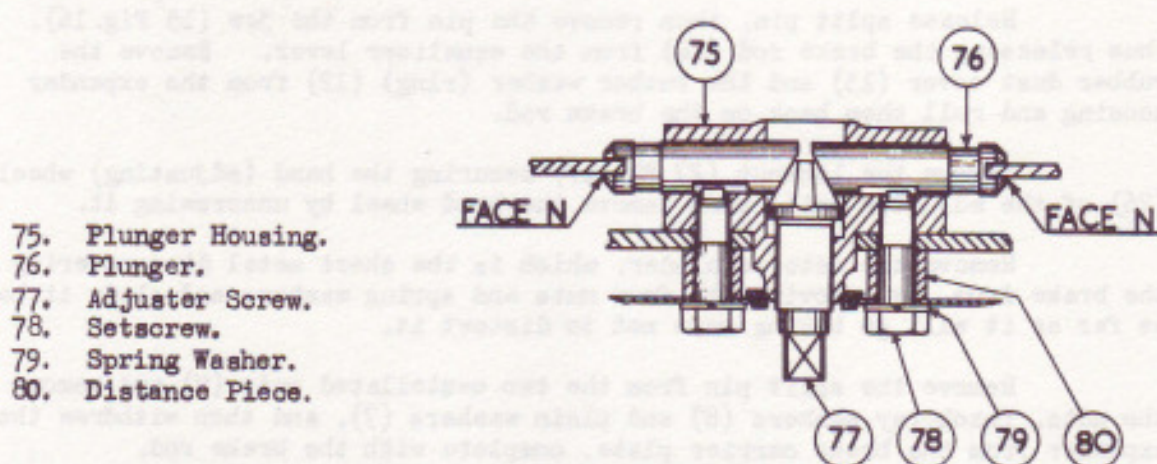
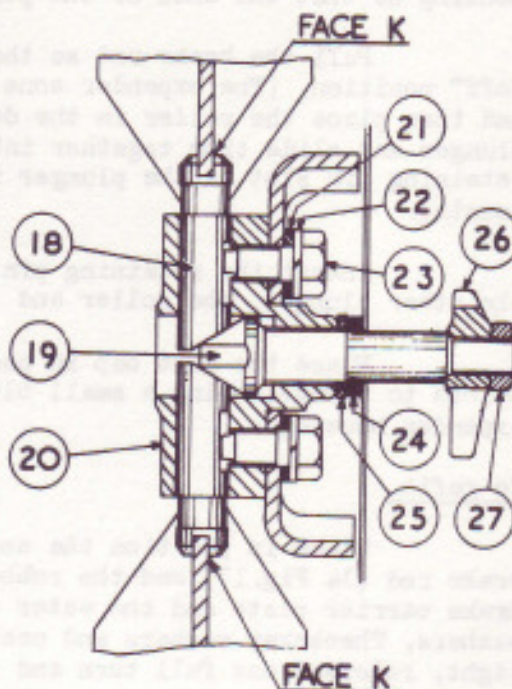

FIG. 13. SECTION THROUGH FRONT ADJUSTER.
FIG.17. SECTION THROUGH REAR BRAKE ADJUSTER.
It will be observed upon reference to Fig.13 that the setscrews also locate the plungers and it is important to note that the ends of the setscrews do not nip against the flats on the plungers. This can be checked by slightly rotating the plungers which will indicate the clearance.
Remove the locknut (27 Fig.17) securing the hand (adjusting) wheel (26) of the adjuster unit, then remove the hand wheel by unscrewing it.
Pull the brake rod so that the expander cone is about $\frac{1}{4}$ " from the "off" position, (The expander cone is shown in the "off" position in Fig.17) and then place the roller in the deep end of the inclined slot of the plunger and slide them together into one of the plunger bores, with the retaining pin slot in the plunger in line with the corresponding hole in the housing.
Place in position the assembled expander unit by threading the brake rod (14 Fig.17) and the rubber dust cover (13), through the hole in the brake carrier plate and the water excluder, and attach by means of the plain washers, Thackeray washers and castellated nuts. The nuts must be screwed tight, released one full turn and then secured with a new split pin of the correct size.
Remove the two setscrews and spring washers (23 and 22 Fig.17) and the plain washer (21) and then withdraw the adjuster from the brake carrier plate.
It will be observed upon reference to Fig.17 that the setscrews also locate the plungers and it is important to note that the ends of the setscrews do not nip against the flats on the plungers. This can be checked by slightly rotating the plungers which will indicate the clearance.
- (ii) Slacken one complete turn the two hexagon headed screws (78, Fig.13, and 23, Fig.17), holding the adjuster unit to the carrier plate, thus enabling the unit to rotate slightly on its spigot. (In the case of the rear brakes, place the hole in the water excluder over the adjuster screw, noting that the two washers (24 and 25, Fig.17) are in position. Replace the hand wheel (26), tighten up and secure with the locknut (27). Do not attach the water excluder to the carrier plate at this stage.)
The faces of the steady brackets which contact the brake shoe webs should be in the same plane, i.e., in line with the side faces of the shoe slots in the expander and adjuster plungers on the side of the slots nearer to the carrier plate, faces M and N (Fig.13) for the front brakes and faces J and K (Fig.17) for the rear brakes. While it is permissible, however, for the faces of the steady brackets to be up to .015" below this plane (nearer to the carrier plate), they must never be above it (away from the carrier plate) as this would cause uneven bedding across the width of the shoes.